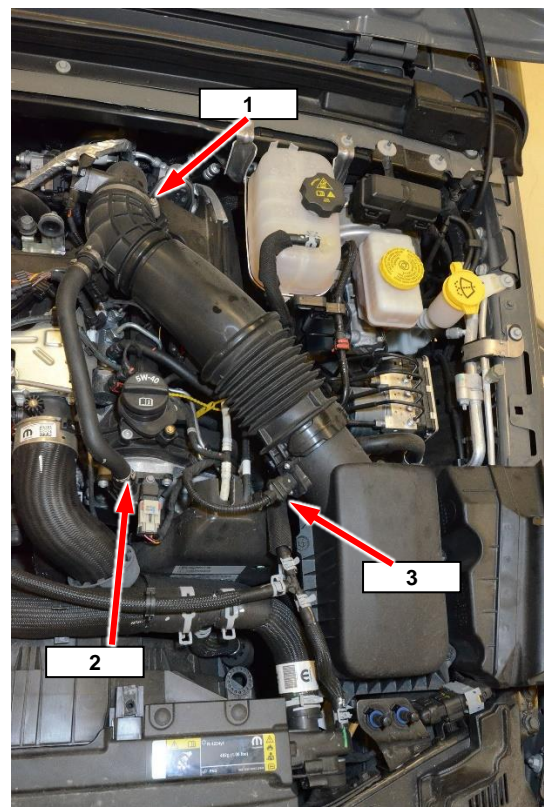

Figure 99 – Inlet Air Tube
13. Remove the clamp at the turbocharger air inlet elbow (1). Slide the CCV hose (2) off at the head. Disconnect the Mass Air Flow electrical connector (3) (Figure 99).